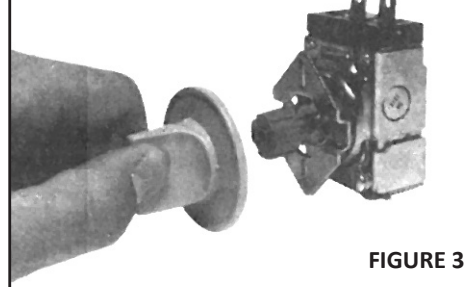

FIGURE 3
4. Using the vertical or horizontal orientation desired, partially assemble the knob onto the insert to obtain proper alignment. See Fig. 3. Then remove the knob with the insert attached, and press the insert all the way into the knob. When completely in place, approximately 1/8" of the 4-way insert will be outside of the knob. Reinstall knob.